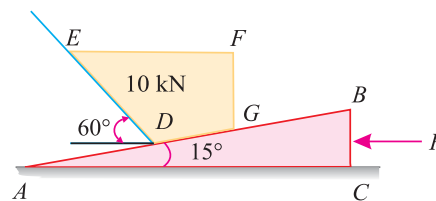

Fig. 9.19.
2. A block weighing 10 kN is to be raised against a surface, which is inclined at  $60^\circ$  with the horizontal by means of a  $15^\circ$  wedge as shown in Fig. 9.19.